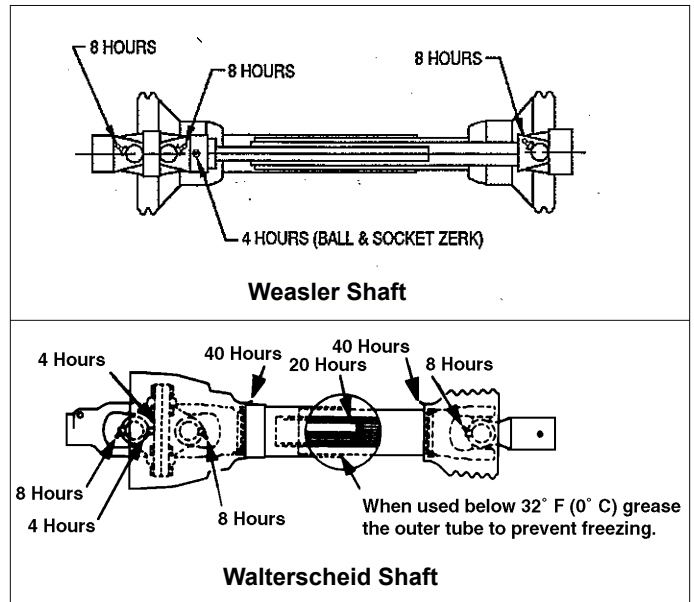

figure 2
Lubricate the constant velocity (CV) drive shaft with high-quality grease to extend the life of the driveline. See figure 2 for intervals and locations.